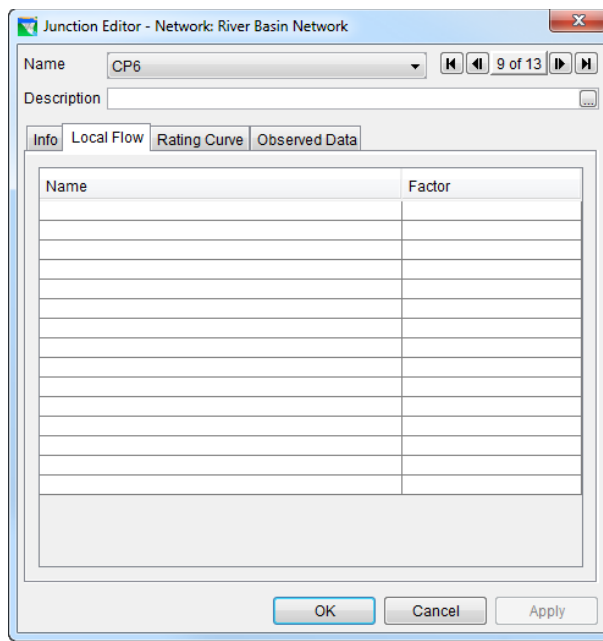

Figure 23: Junction Editor
- **Create an Operation Set.** Select **New** from the **Operations** menu and give the new operation set a name (as illustrated in Figure 23). An **Operation Set** is the operation plan or scheme upon which a reservoir bases its decisions regarding how much water to release at each time step of a simulation run [Section 10.2].